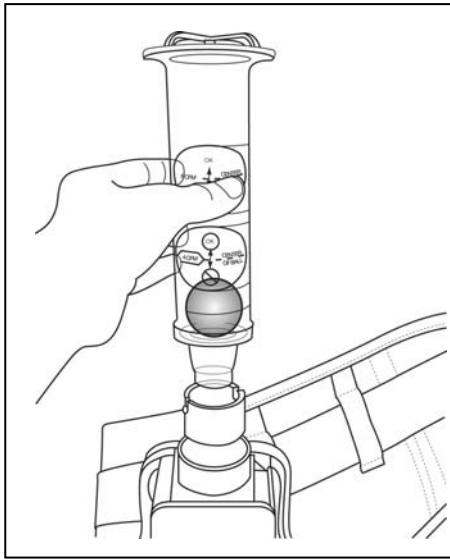
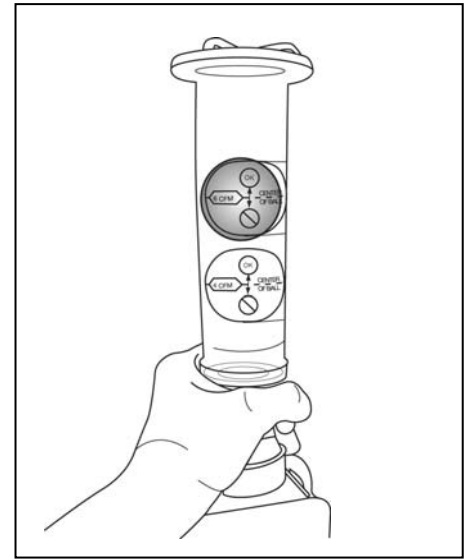

Fig: 11
Fig: 12
- c. V-199 – insert into the end of the adapter (Fig 11) and hold vertically using the thumb and forefinger to cover the two breathing tube locking slots in the connector (Fig 12).
7. For loose fitting headgear, the ball should be located in or above the higher (6 cfm) helmet and hood flow test circle (Fig. 12).